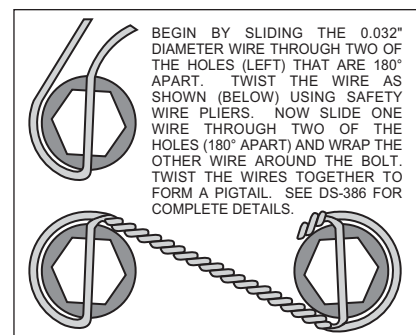

Figure 5. Safety Wire Diagram
- Make sure this is the correct kit to fit the axle housing flange, not necessarily the rear end make. Many times after market manufacturers put a different make of axle housing flange on the stock rear end housing (see Figure 5). Example; Big Ford rear ends with Olds-Pontiac flanges, therefore, an Olds-Pontiac rear disc brake kit would be the correct kit to order. Also, shock clearance may be a problem. They may have to be modified and/or relocated to clear the Wilwood kit after final assembly.
- Slide the bracket kit assembly (1) onto the axle housing flange and secure by sliding bolt (19) through washer (8) through axle housing flange and bracket kit assembly (1), through another washer (8) and attach with bolt (7). Apply red *Loctite*® 271 to bolt threads (19) and torque to 30 ft-lb. Make sure the bracket kit assembly (1) brake shoes are OUTWARD TOWARDS THE WHEEL. Reinstall the rear axle shaft.
- With the larger I.D. side of the rotor (3) facing away from the hat (2), bolt rotor (3) to hat (2) through the backside of the rotor using washers (4) and bolts (5). Torque bolts (5) in an alternating sequence to 103 in-lb. Safety wire bolts (5) using standard 0.032 inch diameter stainless steel safety wire as shown in Figure 5. Please refer to Wilwood's data sheet DS-386 (available at [www.wilwood.com/Pdf/DataSheets/ds386.pdf](http://www.wilwood.com/Pdf/DataSheets/ds386.pdf)) for complete safety wire installation instructions.